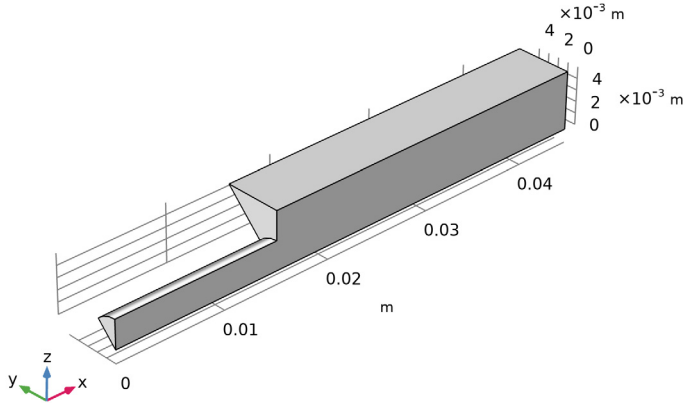

Figure 1: Model geometry.
The model consists of a pipe connected to a block-shaped tank; see Figure 1. Due to symmetry, it is sufficient to model one eighth of the full geometry. The pipe has an inlet at one end, and the tank has an outlet at the opposite end. All other boundaries are solid walls.
- The model geometry is now complete (Figure 1).